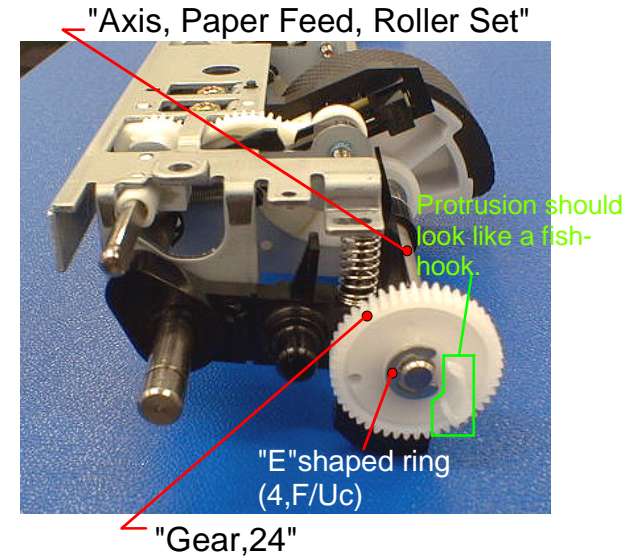

Figure 4-169. Installing "Gear,24"
37. Insert "Gear,24" to "Axis, Paper Feed, Roller Set", and fix it with "E" shaped ring(4,F/Uc). (See figure4-169)
There are 2 ditches for inserting "Gear, 24" on the "Axis, Roller, Paper Feed, Roller Set". Set "Gear,24" so that its surface protrusion is located like a fish hook shape, as it is shown in figure 4-169.